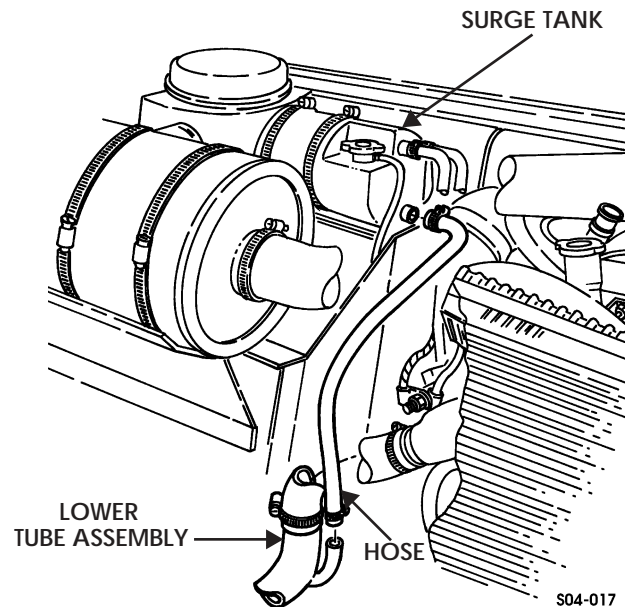

Figure 4-19: Surge Tank-to-Lower Radiator Tube Hose
2. Remove hose from surge tank and lower tube assembly (Figure 4-19).
1. Install hose on lower tube assembly and surge tank (Figure 4-19).